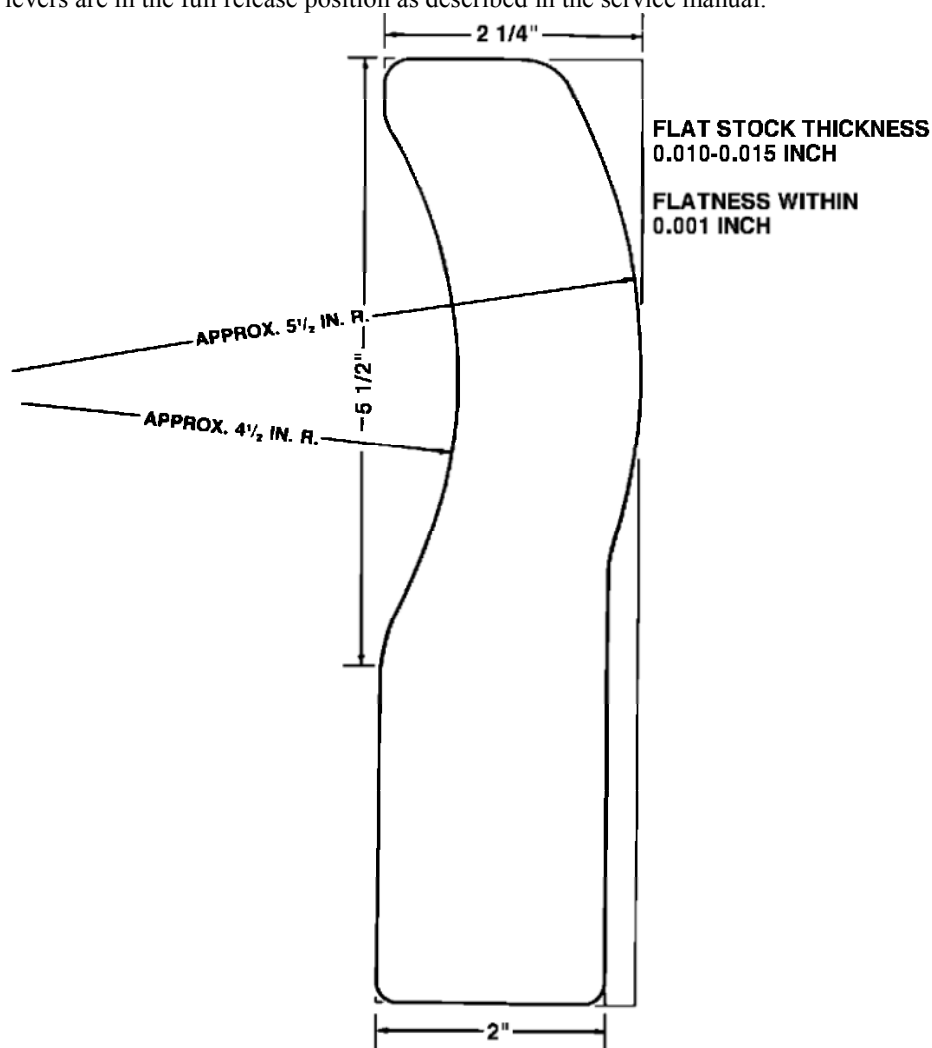

FIGURE 1
6. Pry caliper outboard to produce a gap between outboard pad and rotor. Insert a 0.010 to 0.015 inch shim between the outer brake pad and the rotor. Suggested shim shape is shown in Figure 1.